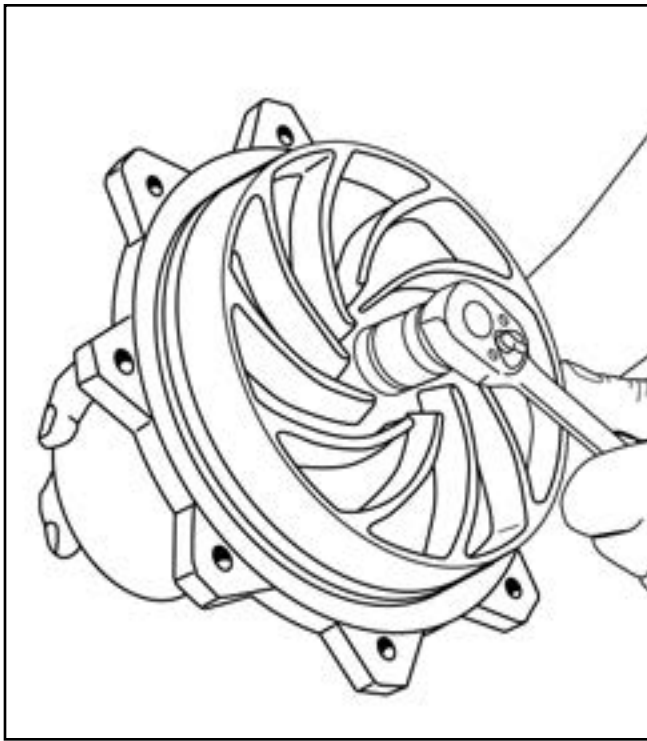

FIG. 18
5. Hold rotor and unscrew impeller locking nut. Turn counter-clockwise as thread is right hand. Fig. 18.